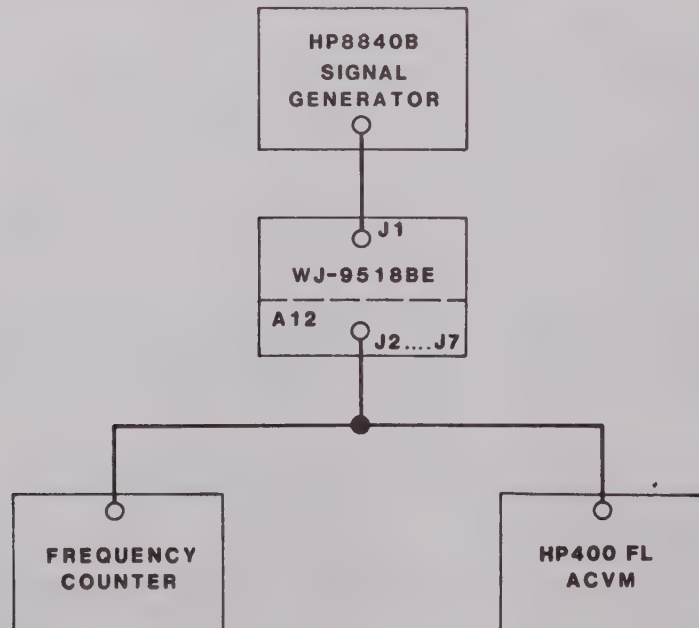

Figure 4-3. Reference Generator External Performance Test, Equipment Connections
3. Connect the test equipment as illustrated in **Figure 4-3**.